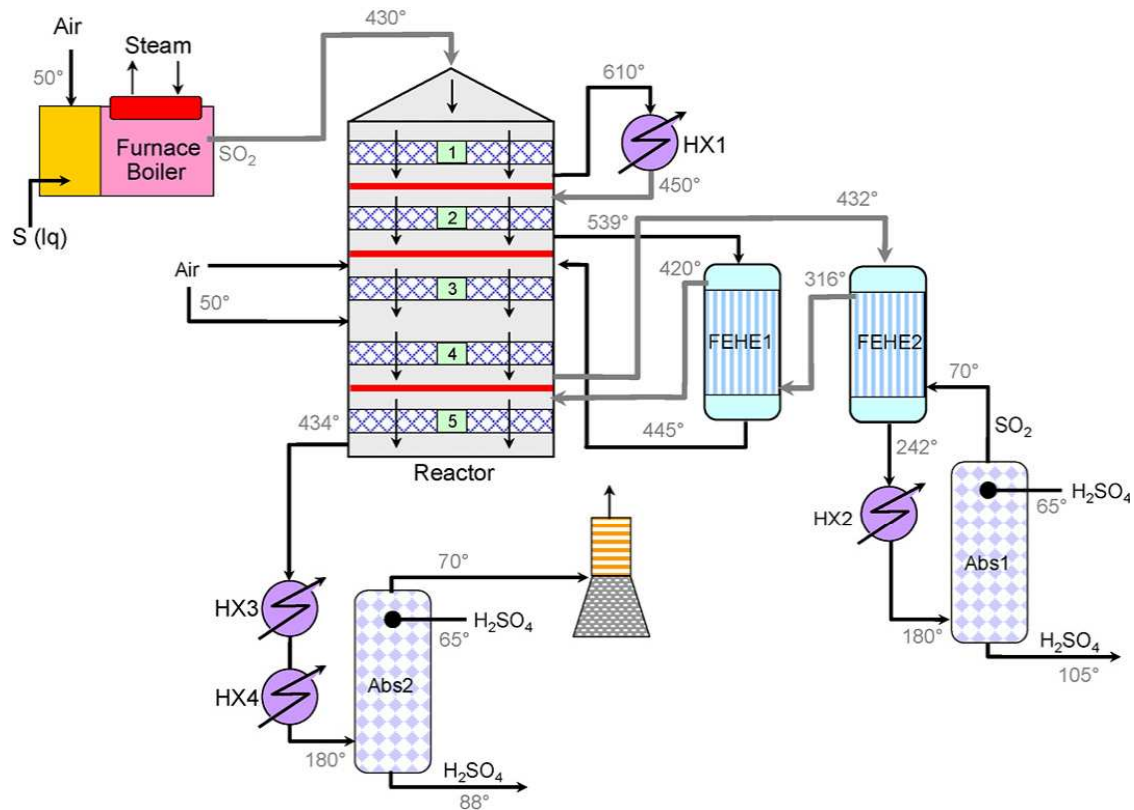

Figure 1: A flowsheet of Acid Sulfuric production plant
The simplified flowsheet of the industrial sulfuric acid production process consists of a sulfur burner, multi-pass converter, heat exchangers and absorbers as shown in Figure 1. The main steps in the process consist of burning sulfur (S) in air to form sulfur dioxide ( $SO_2$ ), converting  $SO_2$  to sulfur trioxide ( $SO_3$ ) using oxygen ( $O_2$ ) from air, and absorbing  $SO_3$  in water ( $H_2O$ ) or a diluted solution of sulfuric acid ( $H_2SO_4$ ) to form a concentrated solution of acid (> 96%).